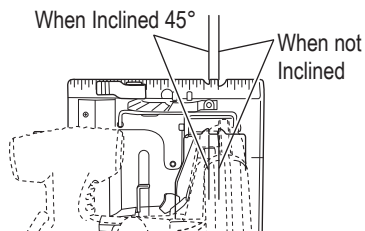
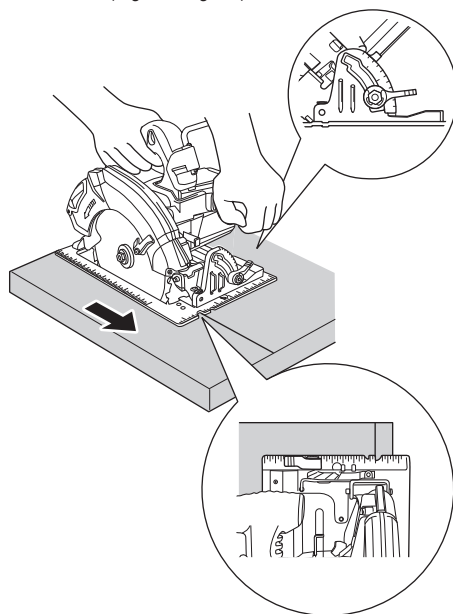
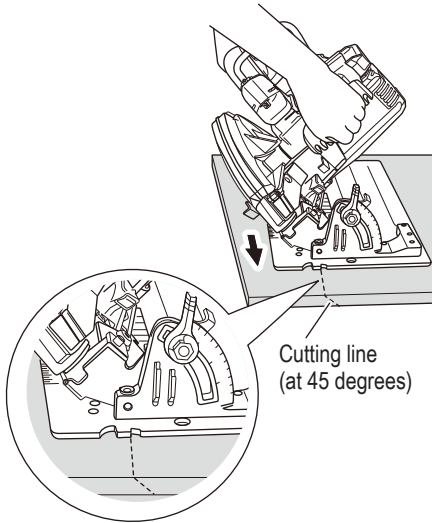

Fig. 29
Fig. 30
Fig. 31
- (1) Place the base on the material, then align the premarked line and the saw blade with the notch at the front of the base (Fig. 29).
- (2) When the base is not inclined, use the right side of the notch (Fig. 29, Fig. 30).
If the base is inclined (45 degrees), use the left side of the notch (Fig. 29, Fig. 31).
4. Tilt saw forward and align the notch (Fig. 29) with the pre-marked guide line.